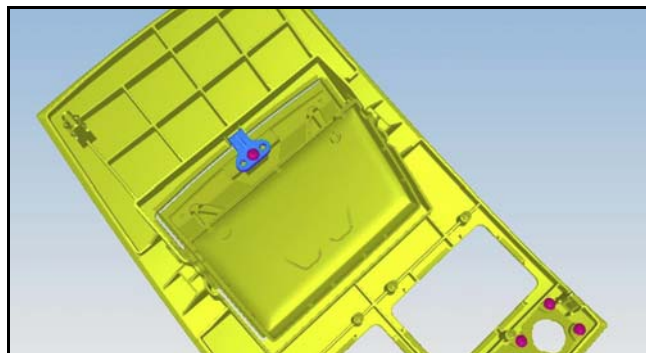

Figure 4
6. Remove the screw that attaches the locating peg bracket to the veneer bezel (refer to Figure 4).